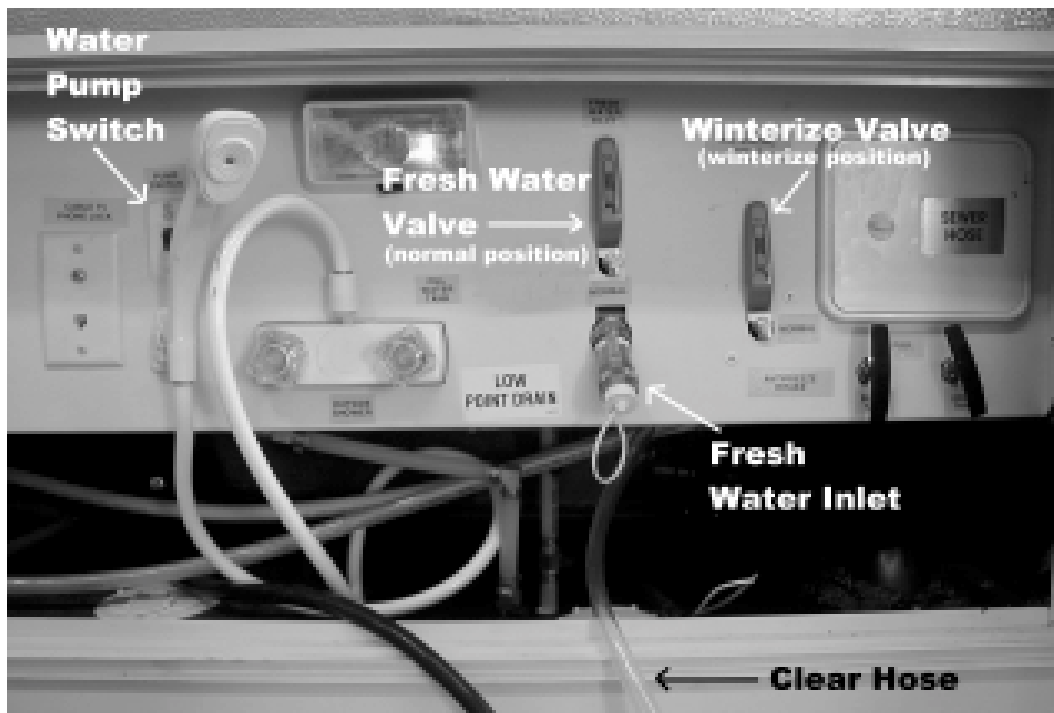

Fig. 4-6
2. In a large bucket prepare a chlorine solution using $\frac{3}{4}$ cup of household bleach and three (3) gallons (11.35 liters) of water.
3. Place the "Clear Hose" in a bucket of solution. (Fig. 4-6)
9. Turn the "Water Pump Switch" to the "ON" position and allow all of the chlorine solution to enter the tank. (Fig. 4-6)
14. Connect garden hose to the "Fresh Water Inlet" and add water until the tank is $\frac{1}{2}$ - $\frac{3}{4}$ full. (Fig. 4-6)
17. Turn the “Water Pump Switch” to the “ON” position and allow several seconds for the pump to prime. (Fig. 4-6)
21. Connect the garden hose to the “Fresh Water Inlet” and fill the tank. (Fig. 4-6)
23. Turn the “Water Pump Switch” to the “ON” position and allow several seconds for the pump to prime. (Fig. 4-6)